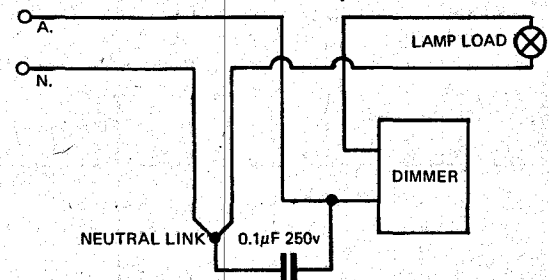

Fig. 5. A bypass capacitor fitted between active and neutral provides a low impedance path for the rfi.
3. Wherever possible both active and neutral leads to the dimmed circuit should be run in close proximity. If possible the neutral should also be brought down to a linking terminal on the dimmer (Fig. 5). This latter procedure will reduce radiation from the main leads, as the opposing currents in active and neutral tend to